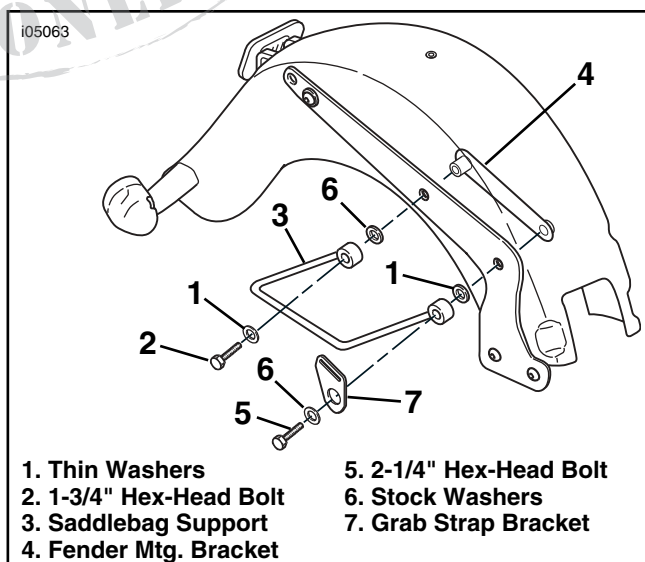

Figure 14. Saddlebag Support Installation (Right Side), 2003 and Later FLSTC and FLSTF
- Models with sissy bars:** See Figure 14. Install a 1-3/4" (44 mm) long hex-head bolt (2), supplied in the kit, through the rear mounting hole of the saddlebag support (3). Place a flat washer (6), removed in Step 7, onto the exposed threads of the bolt.
- Models without sissy bars:** See Figure 14. Place one thin washer (1) from the kit on a 1-3/4" (44 mm) hex-head bolt (2), supplied in the kit, and install the bolt through the rear mounting hole of the saddlebag support (3). Place a flat washer (6), removed in Step 7, onto the exposed threads of the bolt.
- Apply 1-2 drops of Loctite® 242 (blue) to the threads of the bolt. Position the fender mounting bracket (4) removed in Step 7 to the underside of the fender. Loosely install the bolt through the fender into the threaded spacer on the bracket. Do not tighten at this time.
- Assemble a 2-1/4" (57 mm) hex-head bolt (5), supplied in the kit, through the flat washer (6) and grab strap bracket (7) removed in Step 7. Insert the bolt into the front mounting hole of the saddlebag support.
- Place a thin washer (1) from the kit onto the exposed threads of the bolt. Apply 1-2 drops of Loctite® 242 (blue) to the threads of the bolt. Insert the bolt through the fender support and fender, and into the threaded nut on the fender mounting bracket (4).